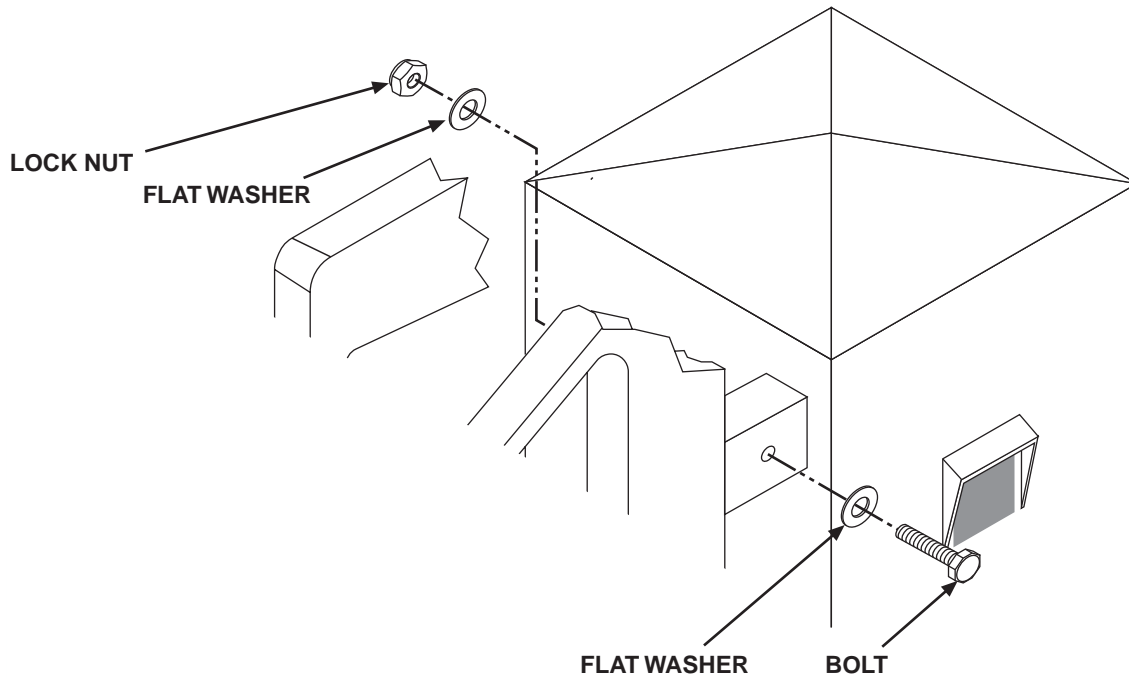

Figure 2-8. Installing antenna mounting hardware
3. Install the $\frac{1}{4}$ -inch antenna mounting hardware into the top support tube as shown in figure 2-8, then install mounting hardware into the bottom support tube.